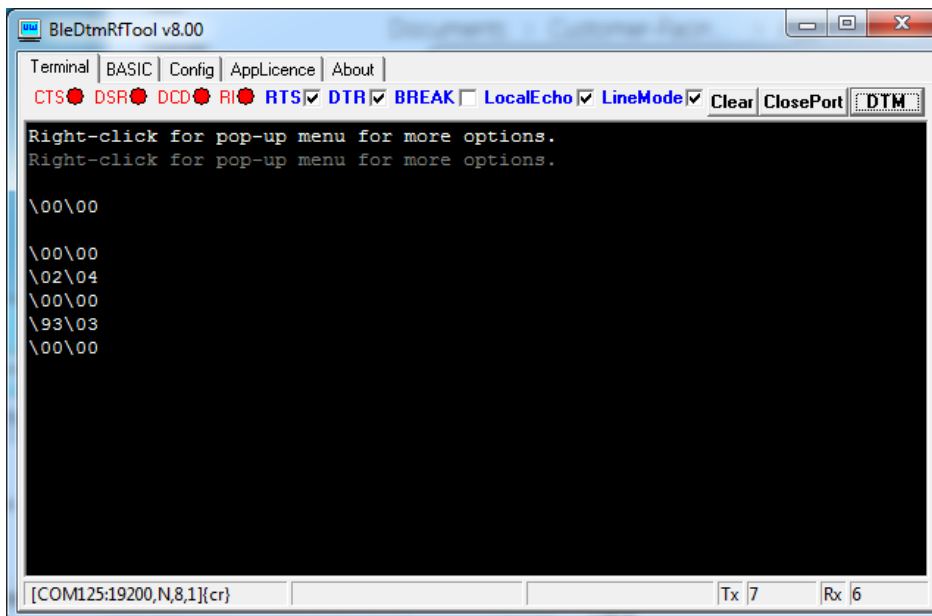

Figure 8: Successful initiation of TX Test
- Once configured, click **TRANSMIT**. If successful, no errors should show, as illustrated in Figure 5. Figure 8 shows a TX CW test.